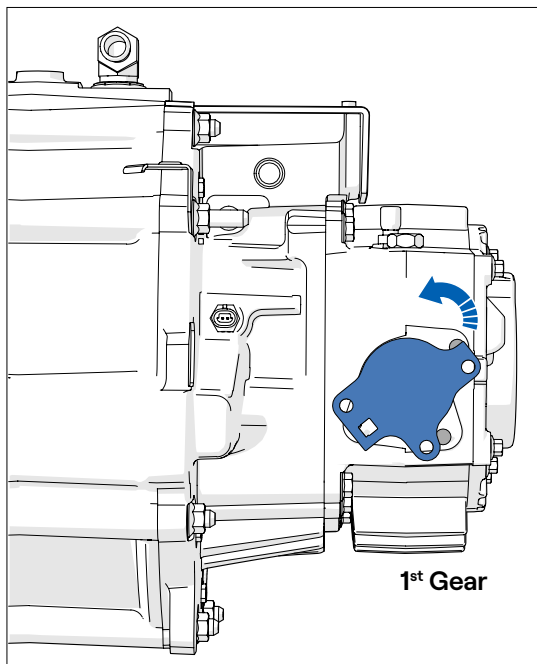
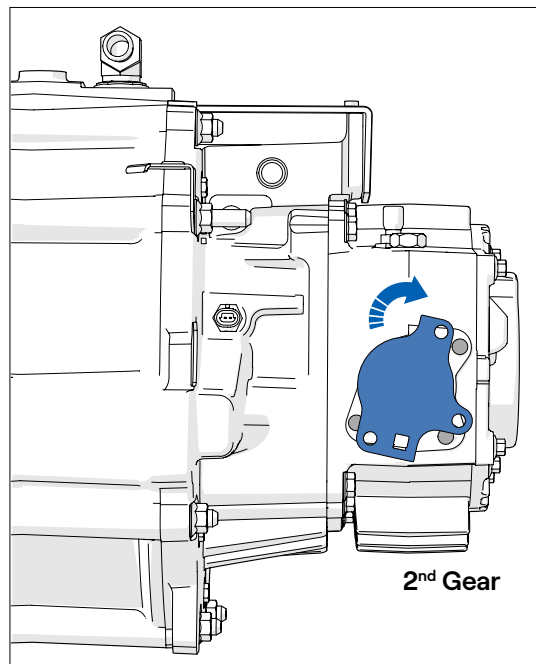

Figure 11 - E-axle towing tool in 1st gear position
Figure 12 - E-axle towing tool in 2nd gear position
2. Insert the tool splined shaft where the shift actuator was previously mounted. NOTE: if the axle is in gear (**Figure 11 and Figure 12**), the tool holes don't line up with the holes on the housing. You may need to rotate the tool to align the splines.